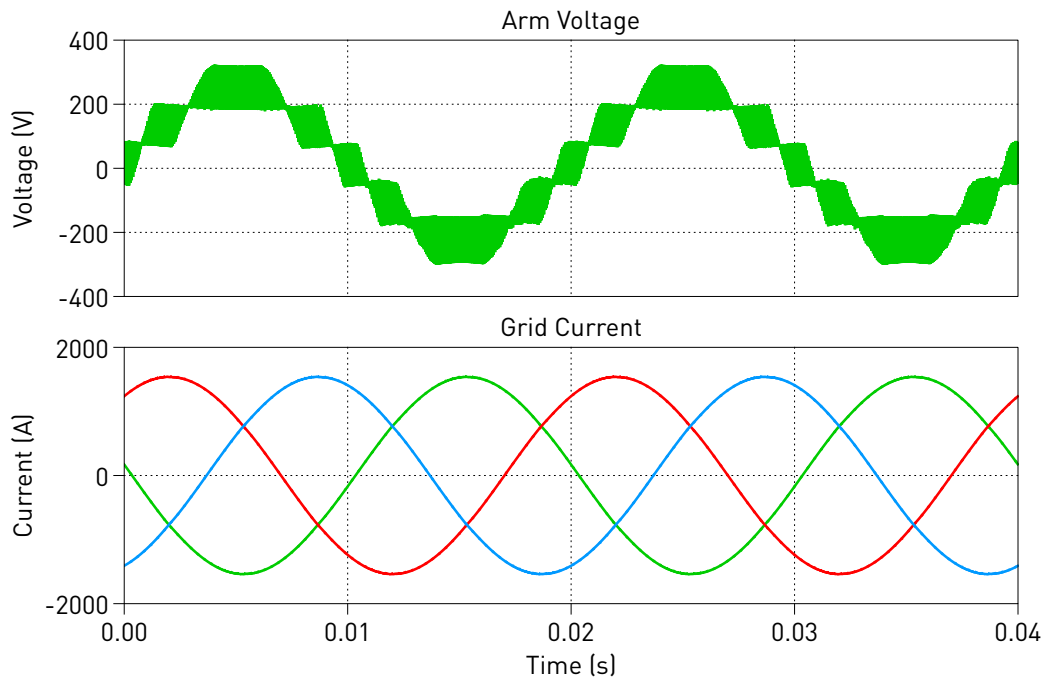

**Figure 5: Hardware configuration for the real-time operation of the demo model**
- Connect the Digital In interface to the Digital Out interface of the RT Box, i.e. by using a 37 pin Sub-D cable as shown in Fig. 5.